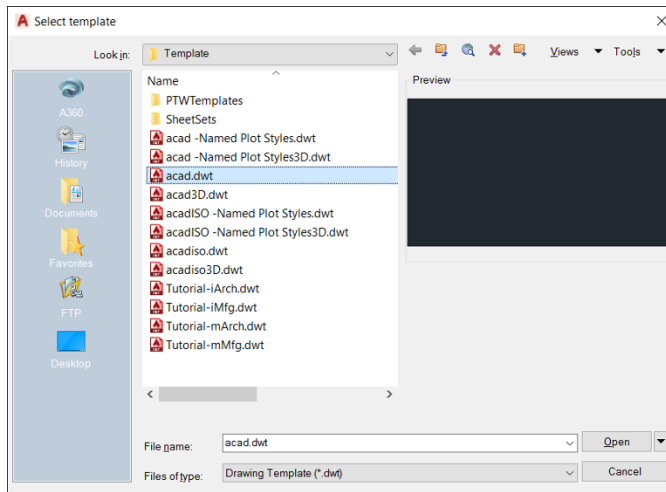

FIGURE 3-2:
b. Select `acad.dwt`, as shown in Figure 3-2. (In AutoCAD LT, select `acad1t.dwt`.)
See Figure 3-2. AutoCAD creates a new, blank drawing that uses the settings in `acad.dwt`. The `acad.dwt` template (`acad1t.dwt` in AutoCAD LT) is AutoCAD's default, plain-Jane (or should that be plain-Pat to be gender-neutral?) template for creating drawings that use imperial units (units expressed in inches or feet or both). Chapter 4 contains additional information about these and other templates.